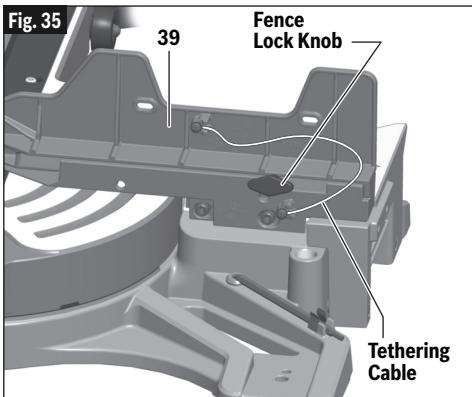

Fig. 35
1. Loosen the sliding fence lock knob counterclockwise 4 rotations, see Fig. 35.